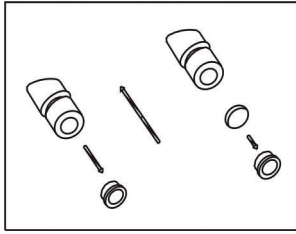

Fig. 5
- 1)Turn and remove the mounting ring ② from the eyepiece . (Fig.5)
- 2)Clean the eyepiece micrometer ①,and mount it to the mounting ring with the inscription side downward .
- 3)Gently twist the mounting ring with the eyepiece micrometer into the eyepiece till tightening② securely.